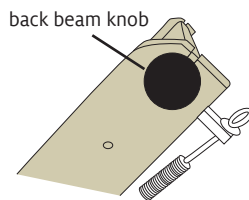

FIGURE 8: BACK BEAM
21. The back beam can be removed for better access to the heddles when you thread the loom. Loosen the back beam knobs on each side of the back beam and lift the beam out (Figure 8). To replace the back beam, slide it back into the legs and tighten the knobs.